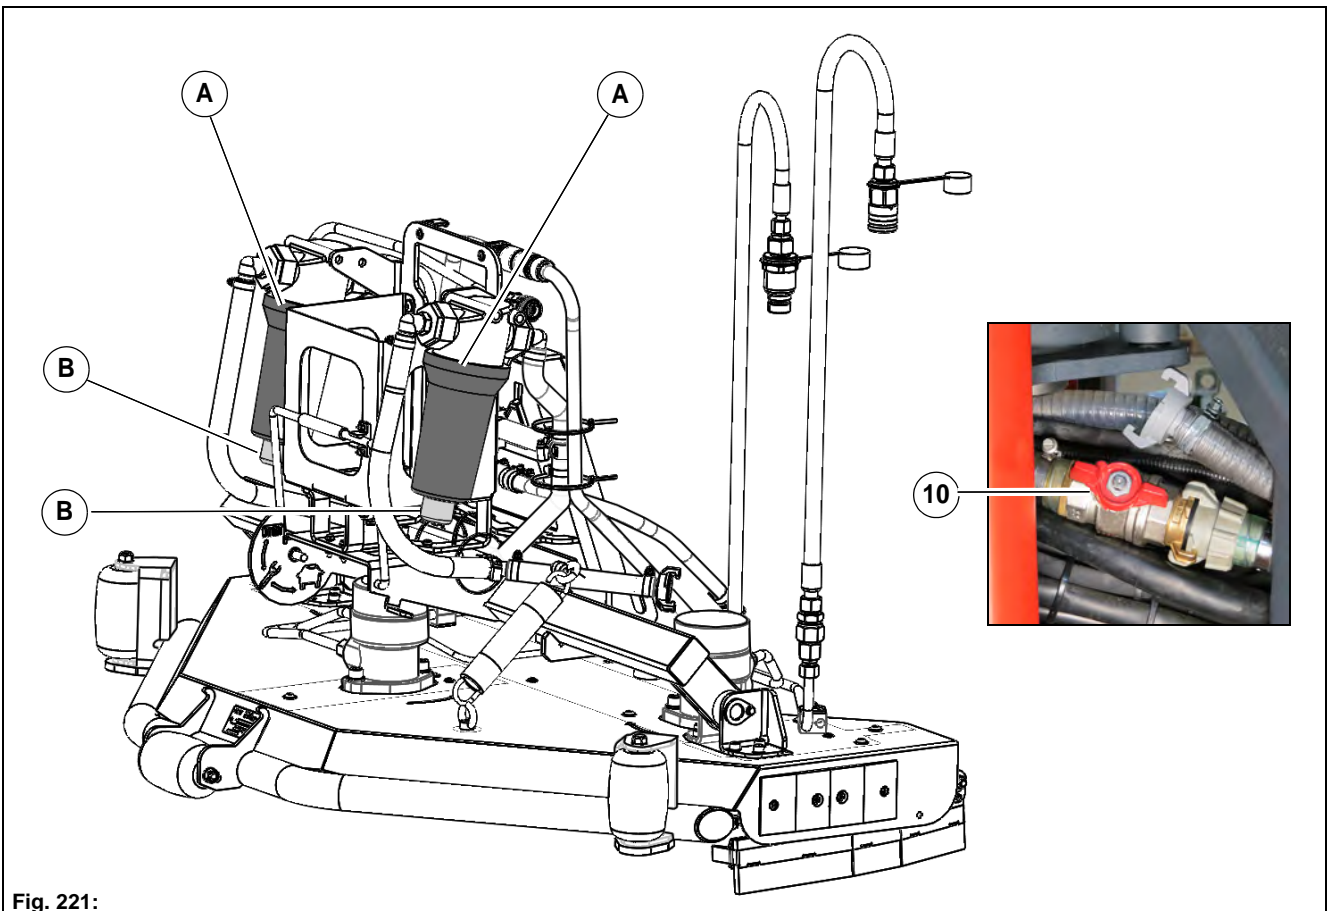

Fig. 221:
Check the filter inserts of both circulating water filters **Fig. 221-A** after each use. Clean them if required.
2. Unscrew the locking cap **Fig. 221-B** and flush with circulating water until the water jet is clear.
2. Unscrew the circulating water filter **Fig. 221-A**.